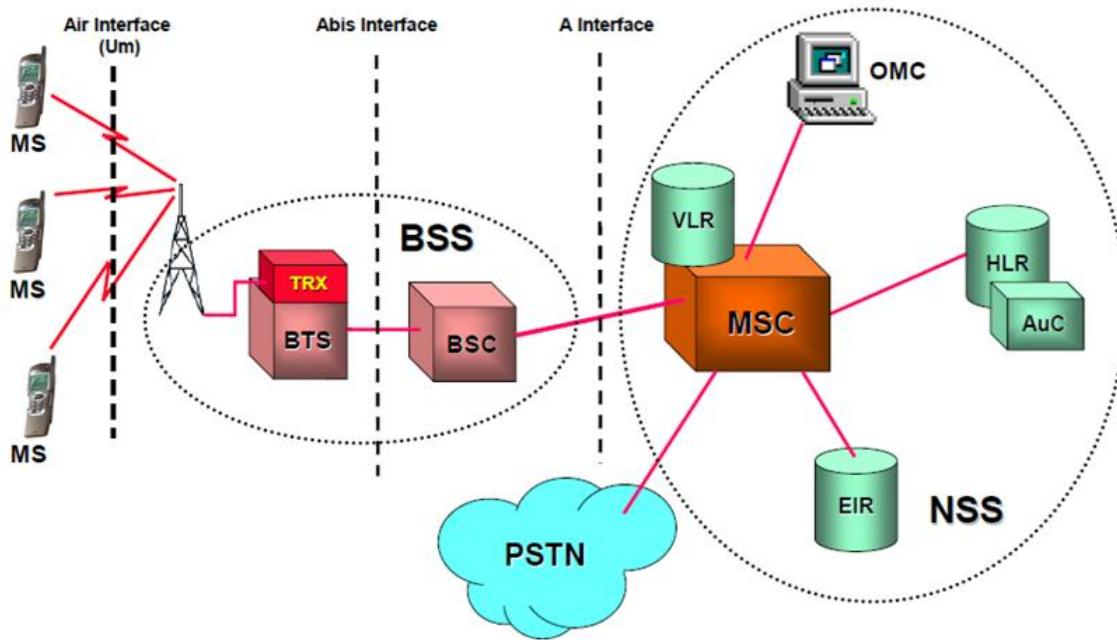

Figure 10.1.4:GSM architecture
**GSM Architecture:** Figure 10.1.4 illustrates the architecture of GSM system.
**Mobile Station (MS):** The Mobile Station is made up of two entities:
1. Mobile Equipment (ME):